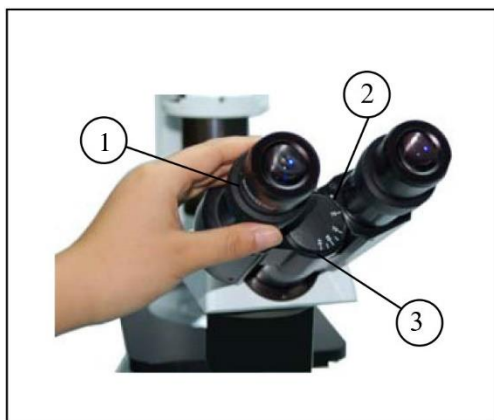

Figure 20
3.3.1. Adjusting the diopter (Figure 20)
- ❖ The reticle on the interpupillar distance indicator (3), pointed by the spot “.” (2) on the eyepiece holder, shows the scale of the interpupillar distance. (Figure 20)